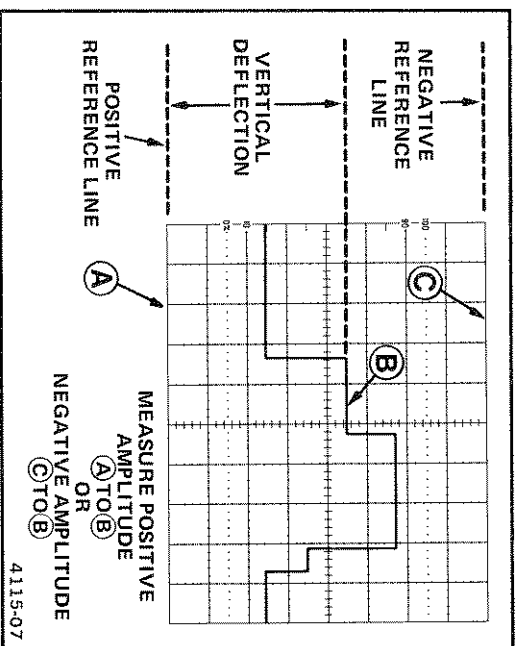

Figure 13. Instantaneous voltage measurement.
11. Measure the divisions of vertical deflection between the reference line and the desired point on the waveform at which the dc level is to be determined (see Figure 13).
**EXAMPLE:** The measured vertical deflection from the reference line is 4.6 divisions (see Figure 13), the waveform is above the reference line, the VOLTS/DIV switch is set to 2, and a 10X attenuator probe is being used.